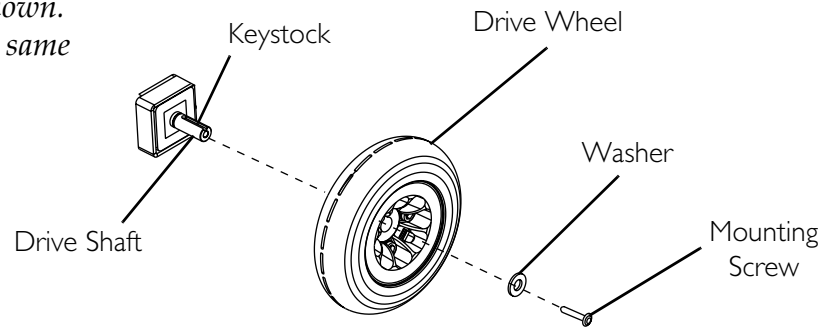

FIGURE 9.1 Removing/Installing the Drive Wheels
NOTE: For this procedure, refer to FIGURE 9.1 on page 36.
1. Place keystack in cutout on drive shaft as shown in FIGURE 9.1.